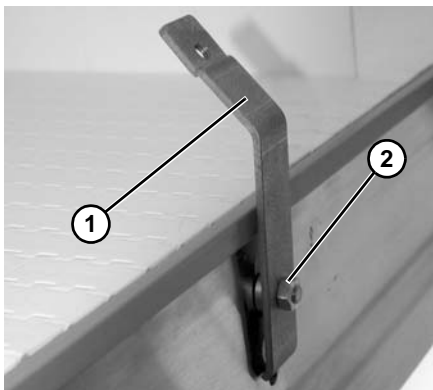

Figure 27
2. Attach the guide mounting brackets (**Figure 27, item 1**) to the conveyor with hex nuts (**Figure 27, item 2**). Hand tighten only at this time.